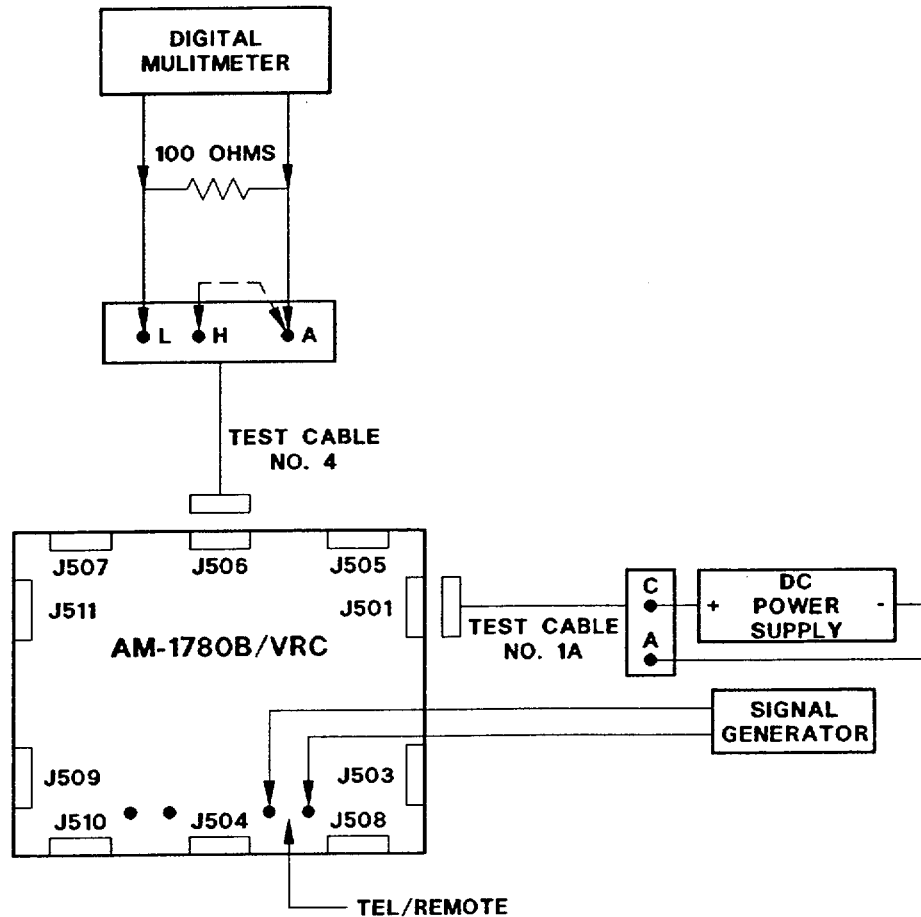

Figure 3-8. GS Test Setup G.
a. Connect a signal generator across TEL/REMOTE binding posts E503 and E504 (fig. 3-8). Adjust the signal generator for an output of 1 kHz at 440 mvac.